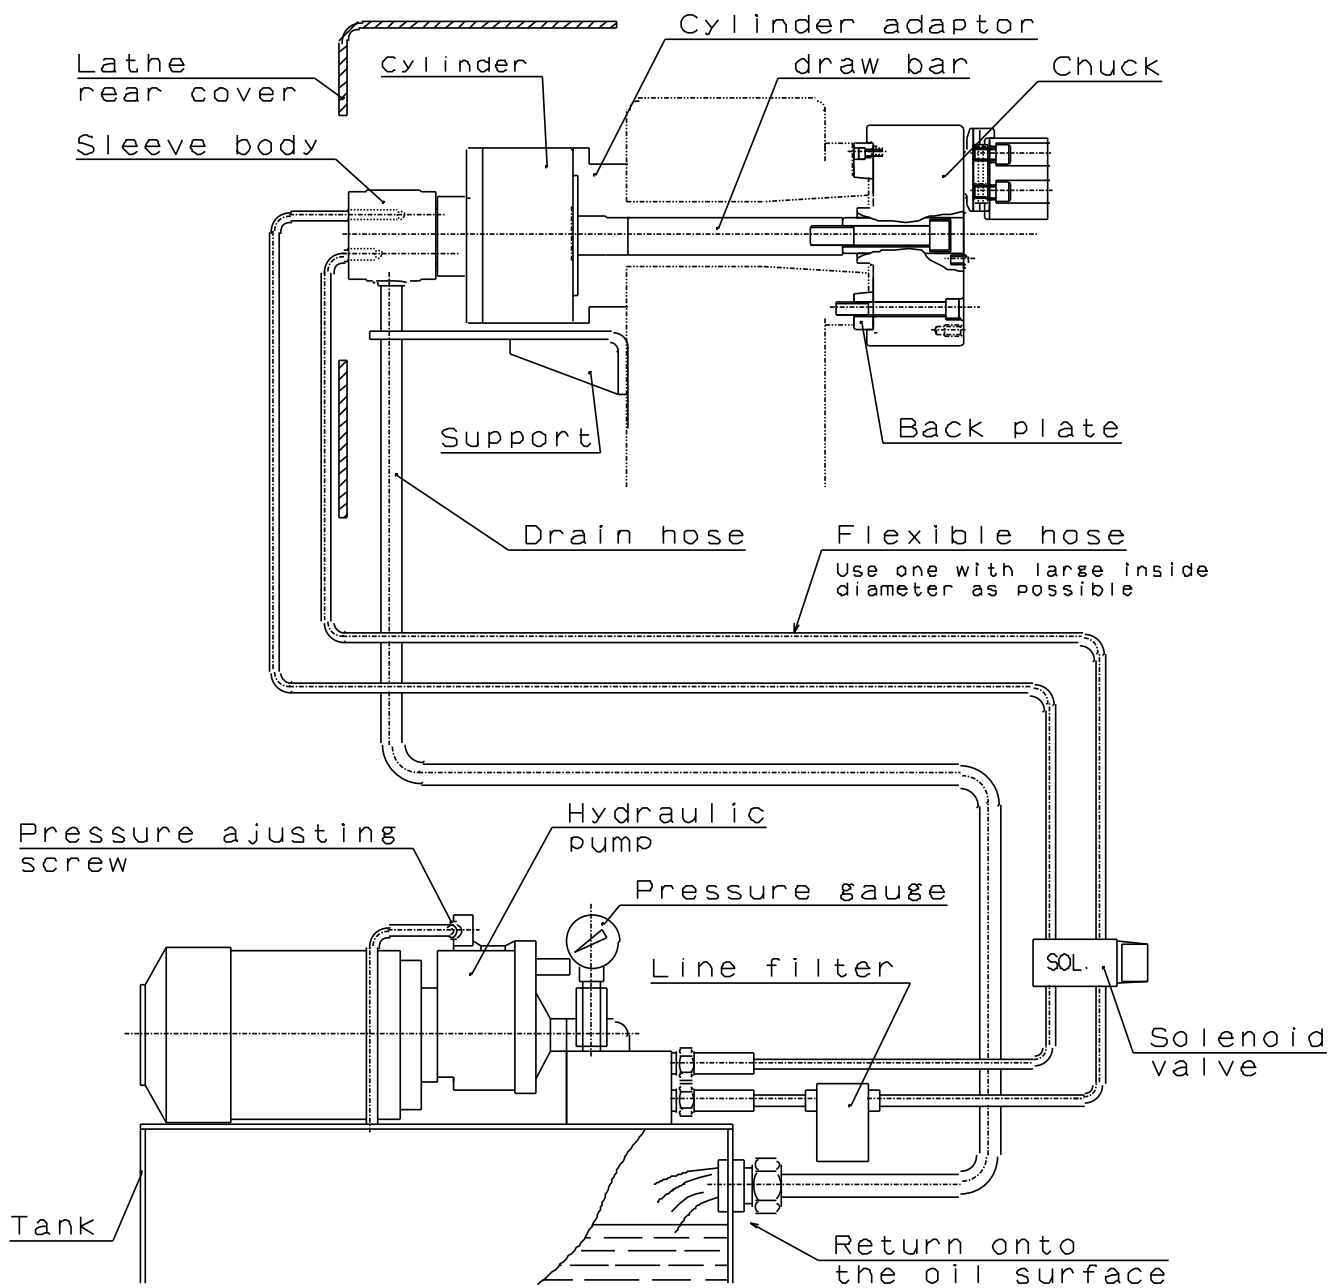

Fig.20
- **The end of the hose is physically above the oil level. (Refer to Fig.20)**